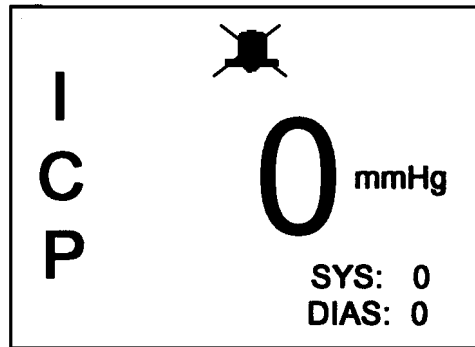

Figure 28
- 14.4.2.7 Verify that the display changes to the standard run mode per Figure 28 with the mean, systolic and diastolic pressures reading zero +/- 1 mmHg. Verify that the ALARM is in the OFF condition and that no ALARM LIMITS are displayed on the screen. Record values.